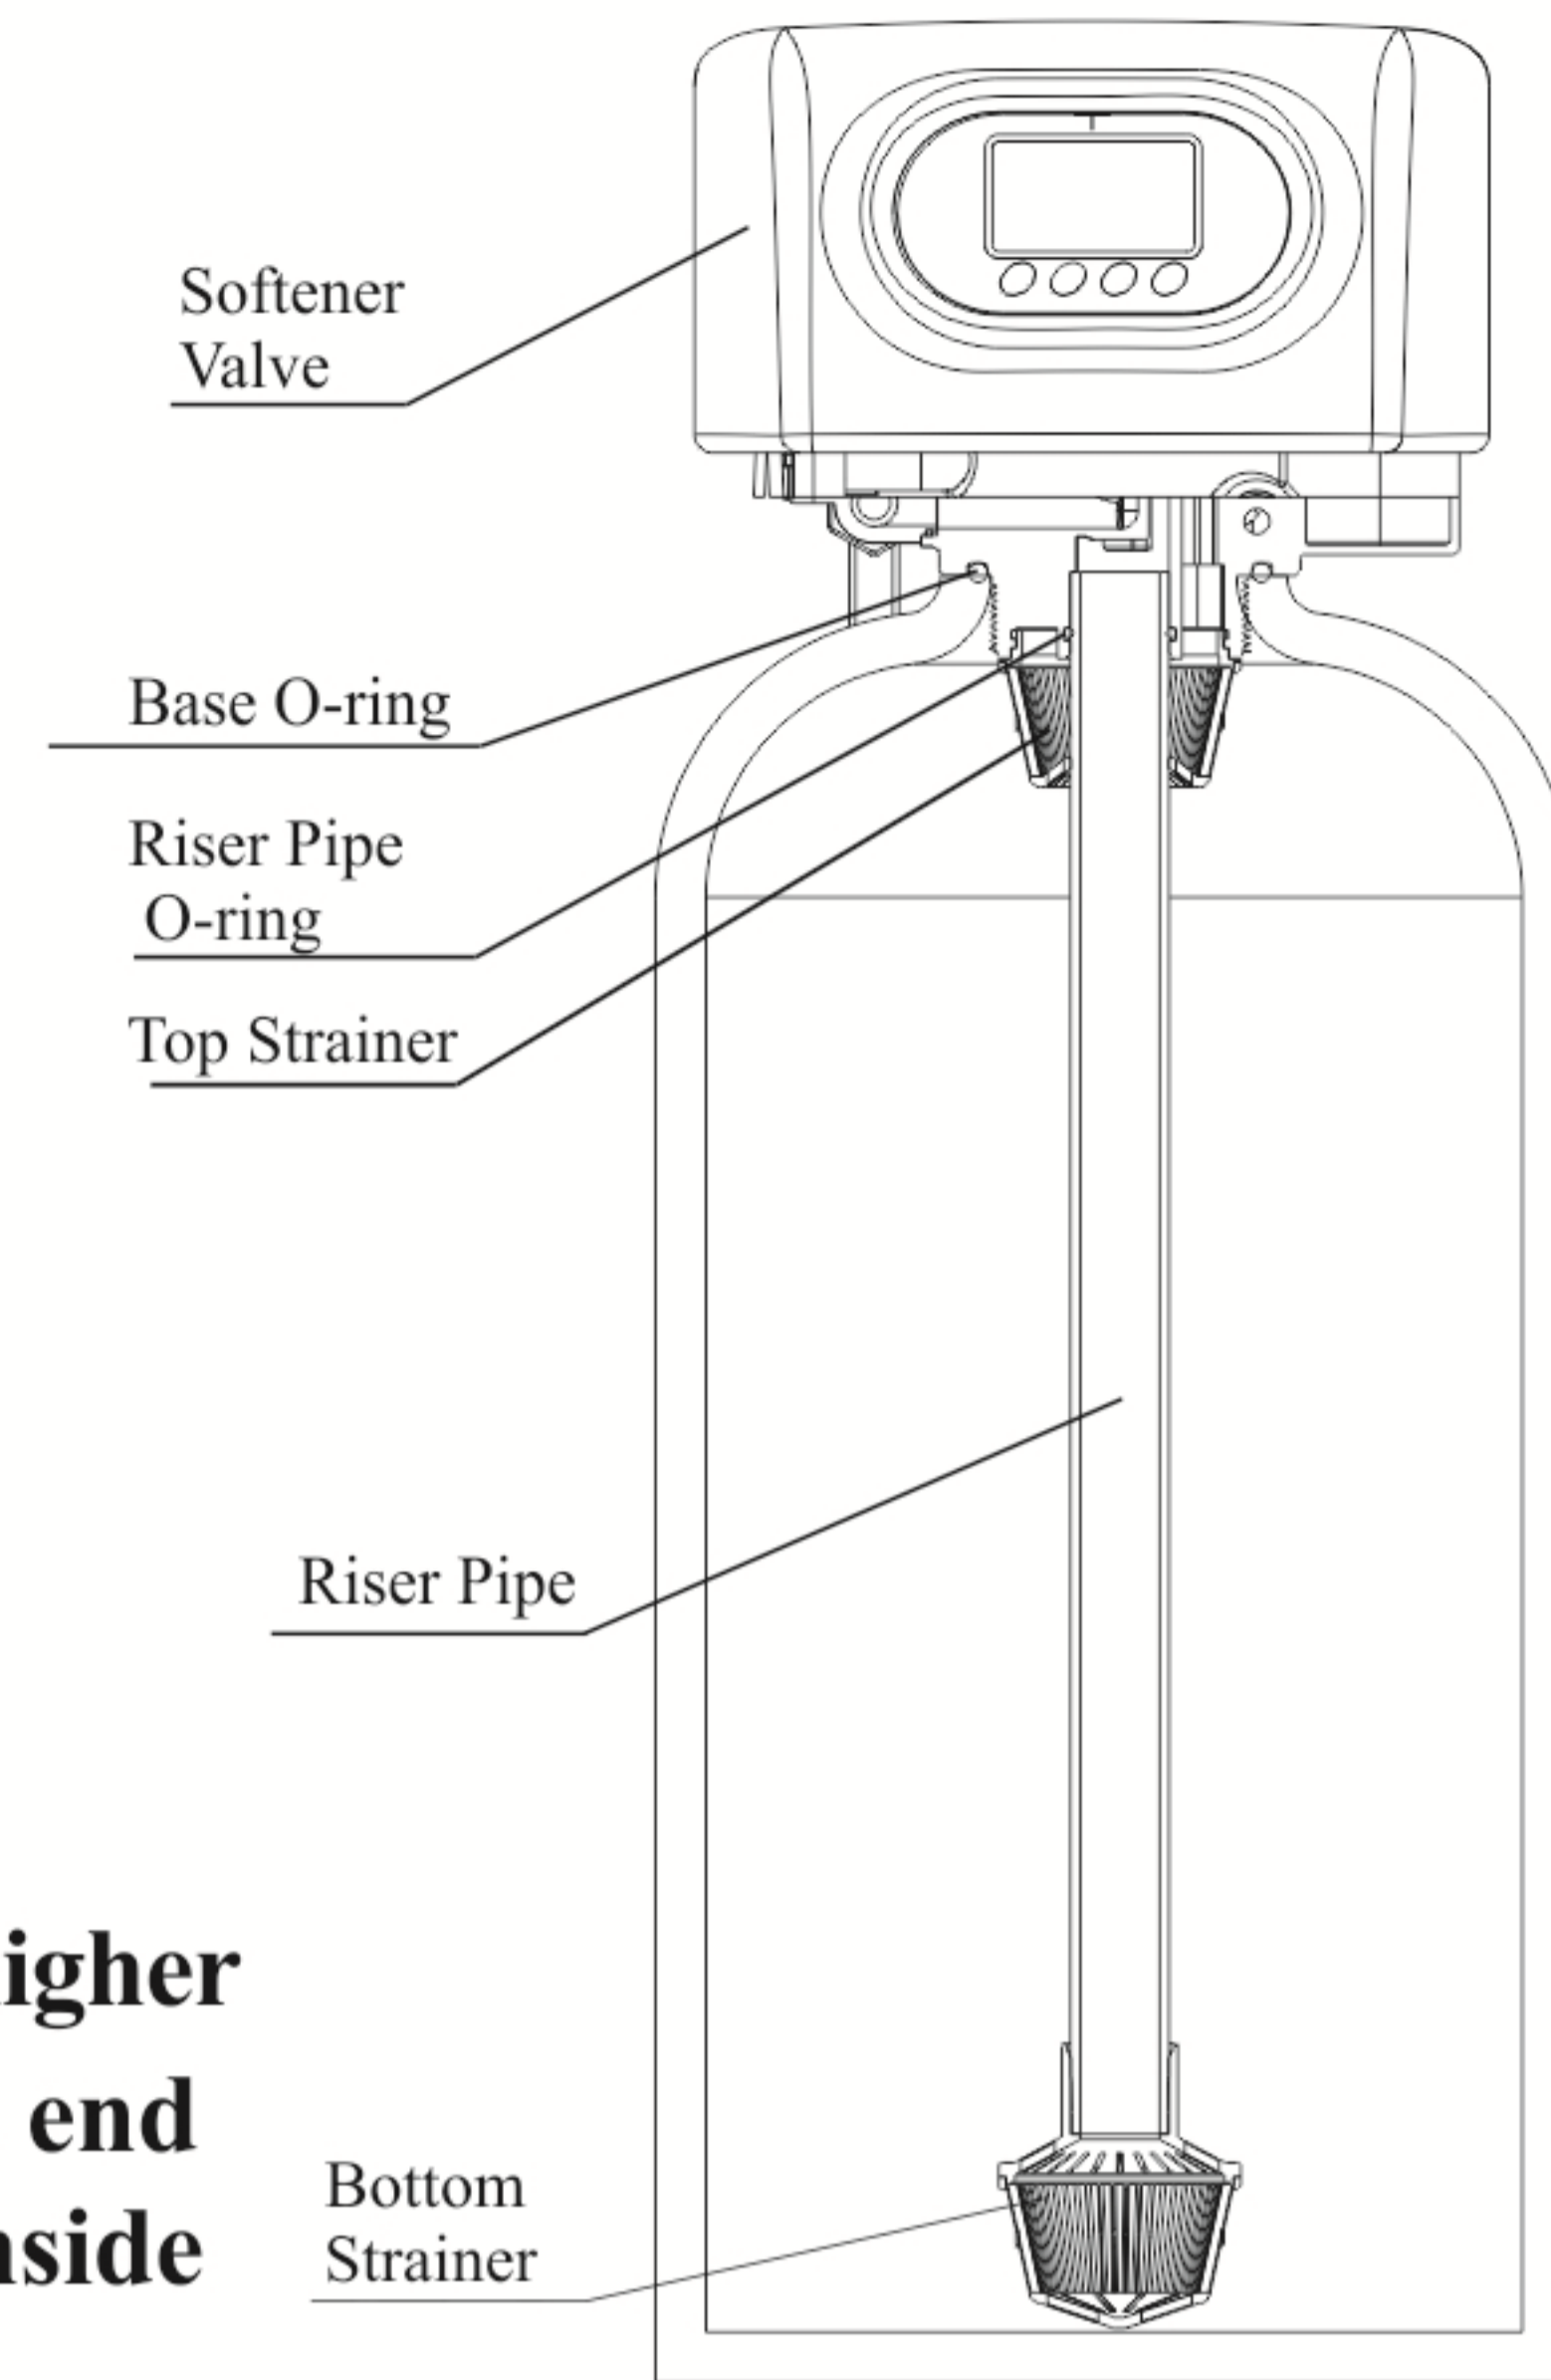

Figure 1-1
- ①The filter or softener should be located close to drain.
- ②Ensure the unit is installed in enough space for operating and maintenance.
- ③Brine tank needs to be close to softener.
- ④The unit should be kept away the heater, and not be exposed outdoor. Sunshine or rain will cause the system damage.
- ⑤Avoid installing the system in circumstance of acid/alkaline, magnetic or strong vibration, because above factors will cause the system disorder.
- ⑥Do not install the filter or softener, drain pipeline or overflow pipe in circumstance where temperature may drop below 5°C, or above 50°C.
- ⑦Install the system in the place where with the minimum loss in case of water leakage.
① Install control valve
a. As the Figure 1-1 shows, select the riser pipe with 26.7 mm OD, glue the riser pipe to the bottom strainer and put it into the bottom of tank, cut off the exceeding pipe out of tank top opening and make external rounding.